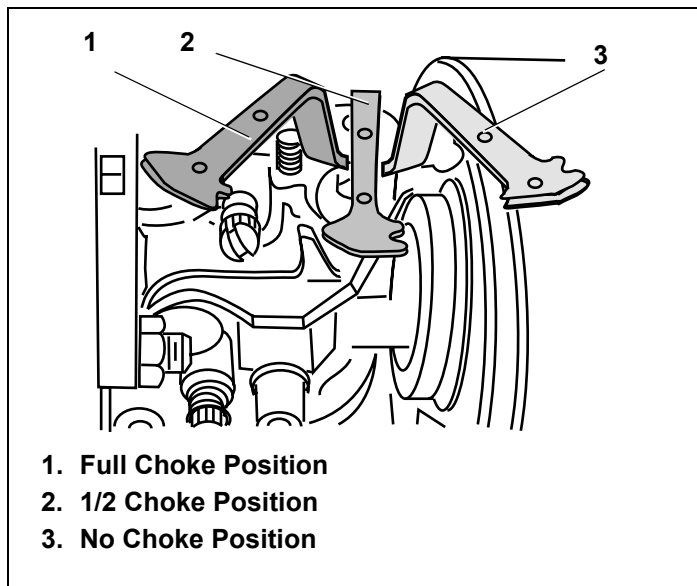

Figure 27. Horizontal Mounted Choke Control
- a. Momentarily move Choke Control to “1/2 CHOKE” position until engine runs smoothly. See Figures 27 and 28.